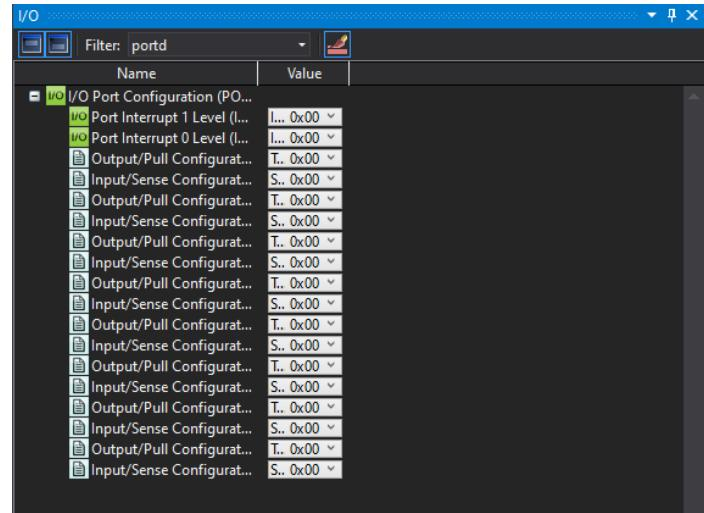

Figure 16: Filtering I/O View.
10. Within the I/O view, filter for and select *I/O Port Configuration (PORTD)*. (To search for this, you may type something as simple as “portd” in the *Filter* textbox, as shown in Figure 16.)